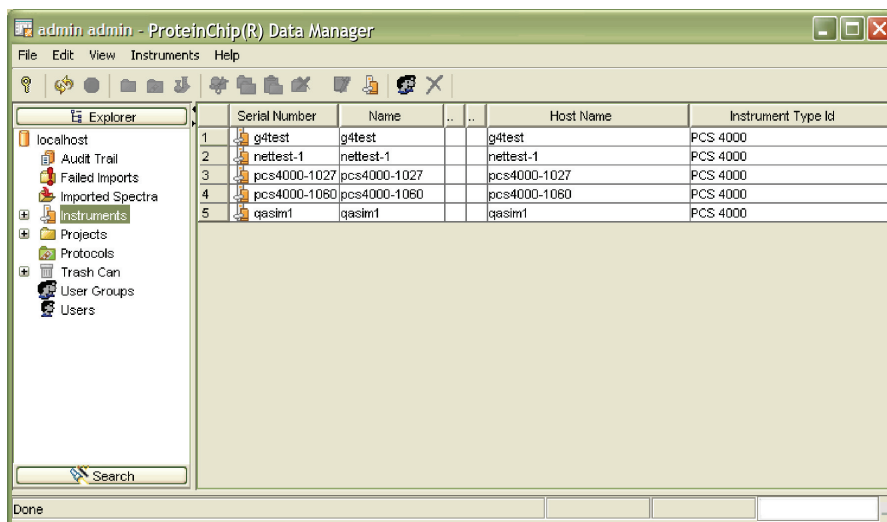

Fig. 32: Connecting the client software to a reader.
- Click on the **Instruments** node in the **Explorer** tree. A table of the available instrument will be displayed in the main pane of the software (Fig. 32).
2. Click on the **Instruments** node in the **Explorer** tree. A table of the available readers will be displayed in the main pane of the software (Fig. 32).